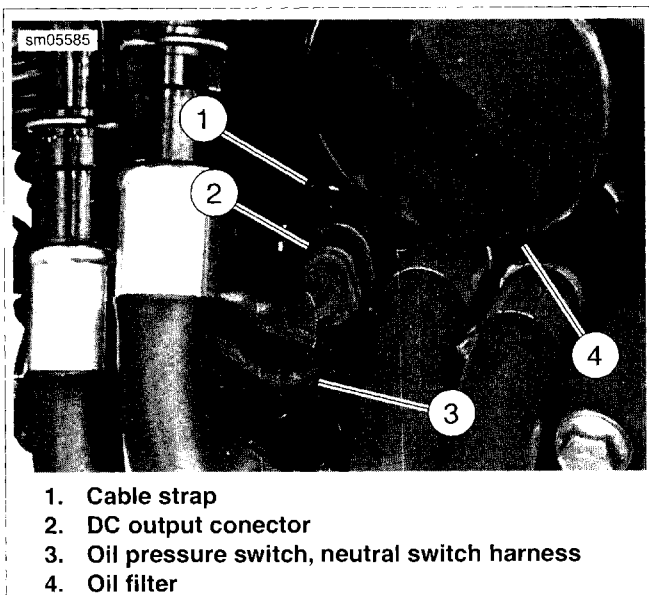

Figure 6-6. DC Output Connector: XR Models
3. See Figure 6-6. Cut cable strap (1). Lift external latch on connector and separate connector halves.